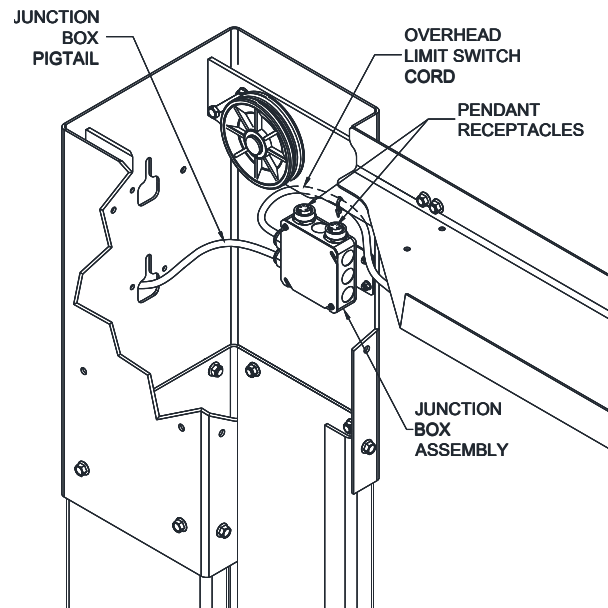

Fig. 11 – Junction Box Assembly
- 27) Install junction box assembly to inside of power column with (2) #10-32 x 1/2" lg. Phillips pan head screws and flange nuts, **Fig. 11**.
- 30) Connect the overhead limit switch pigtail to the receptacle in the junction box, **Fig. 11**.